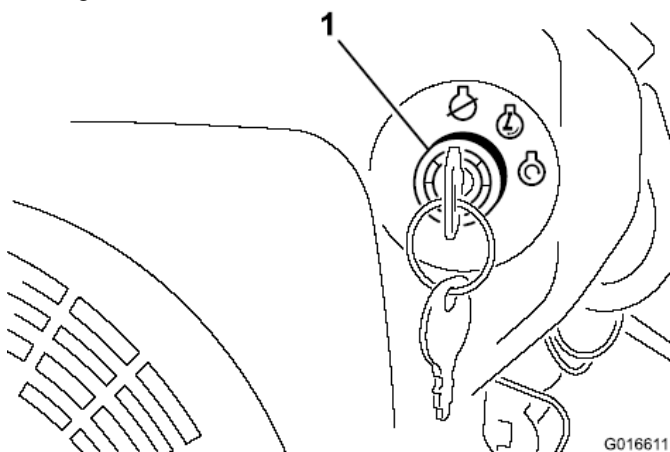

Figure 13
3. Turn the engine ignition switch to the START position (Figure 13).